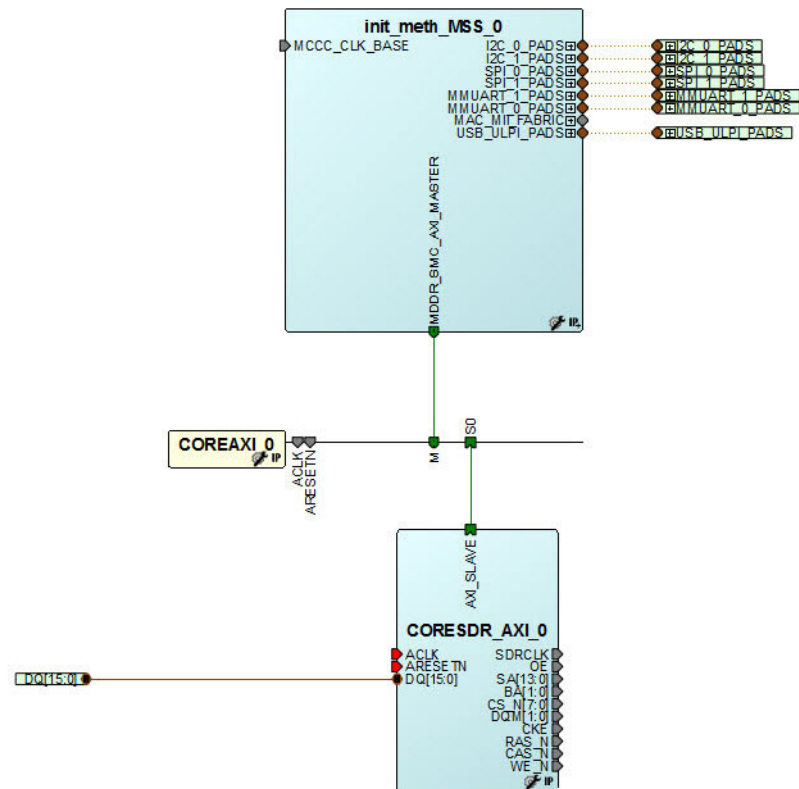

Figure 4-3 • SMC_FIC Sub-System Connections
3. Connect the sub-system (Figure 4-3):